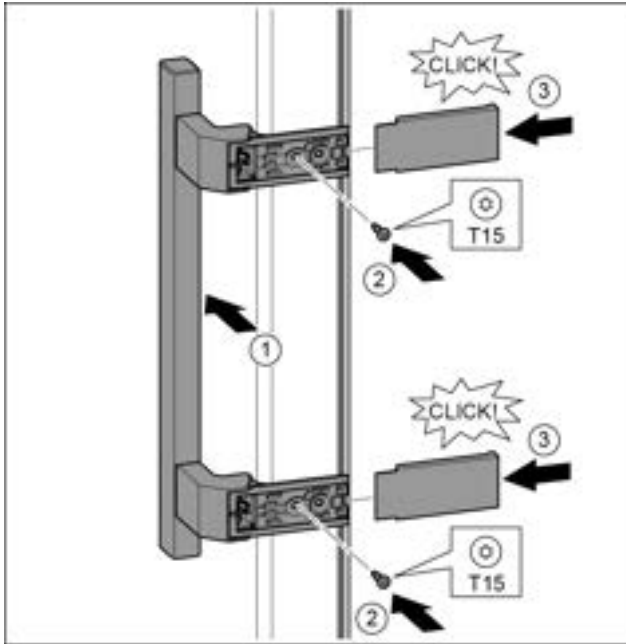

Fig. 20
- ▶ Position the handle on the other side. Fig. 20 (1)
- ▶ Tighten the screws with the T15 screwdriver. Fig. 20 (2)
- ▶ Position the covers on the side and push in. Fig. 20 (3)